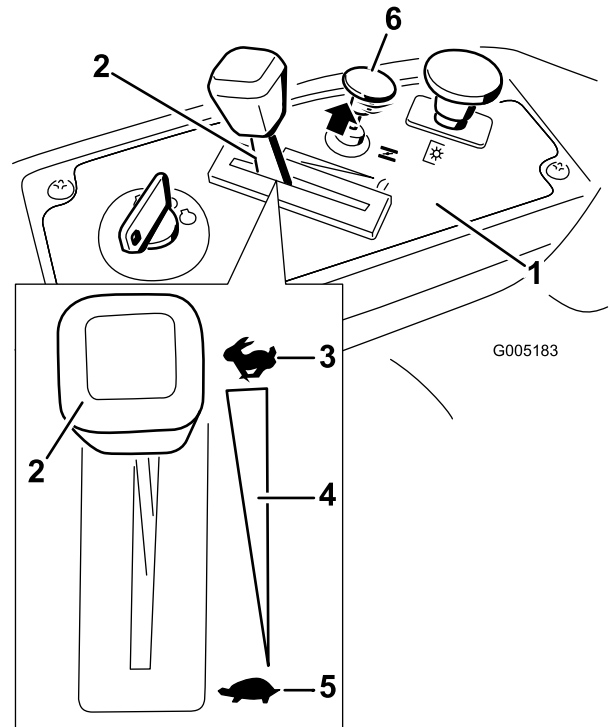

Figure 9
3. Turn the ignition key to Off (Figure 9).